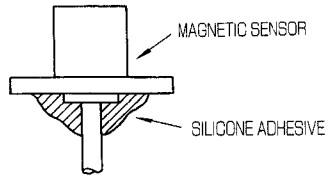

Fig. 5.9 Prevention of Liquid Entry into the Magnetic Sensor Bushing
- (1) The magnet's flux provides feedback for the position loop. Mount the magneto on the spindle (such as the spindle of a milling machine).
- (2) The magneto has to be mounted on non-magnetic materials. Avoid adhesion of iron filings on the magneto.
- (3) Be careful not to damage the magneto and the magnetic sensor when mounting.
- (4) Remove magnetic field generating equipment such as solenoids and magnets from around the magneto and the magnetic sensor.
- (5) Avoid oil or water splashes on the magnetic sensor amplifier and the connecting cables. If the sensor head is frequently exposed to oil or water splashes, use sealing materials to avoid oil and water entry into the bushing as shown in Fig. 5.9.